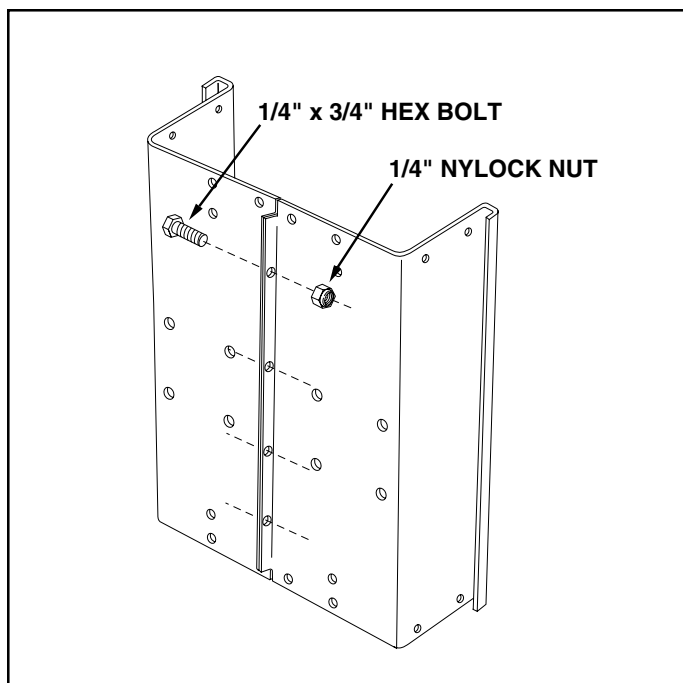

FIGURE 1
3. Position cart body halves upright on a smooth level surface such as a garage floor or a paved driveway. See figure 1.
4. Assemble halves together using four 1/4" x 3/4" hex bolts and 1/4" nylock nuts as shown in figure 1. **Do not tighten at this time.**